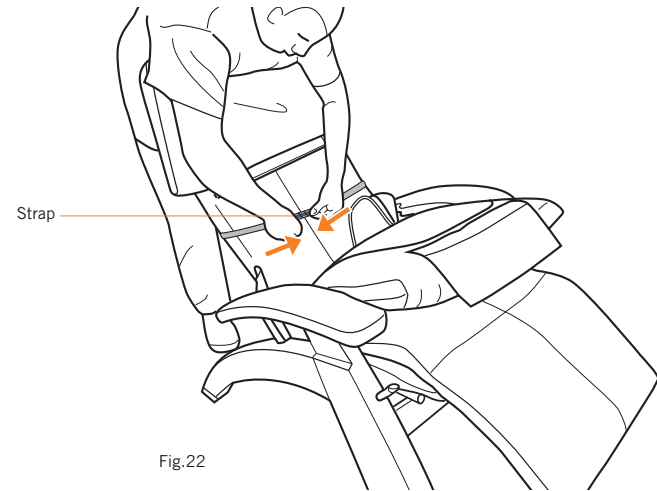

Fig.22
3. Wrap the side straps around the front of the chair canvas, pull them taut, then secure them using the hook-and-loop fasteners (Fig.22). **NOTE:** If the straps are too tight it causes back pad wrinkles.